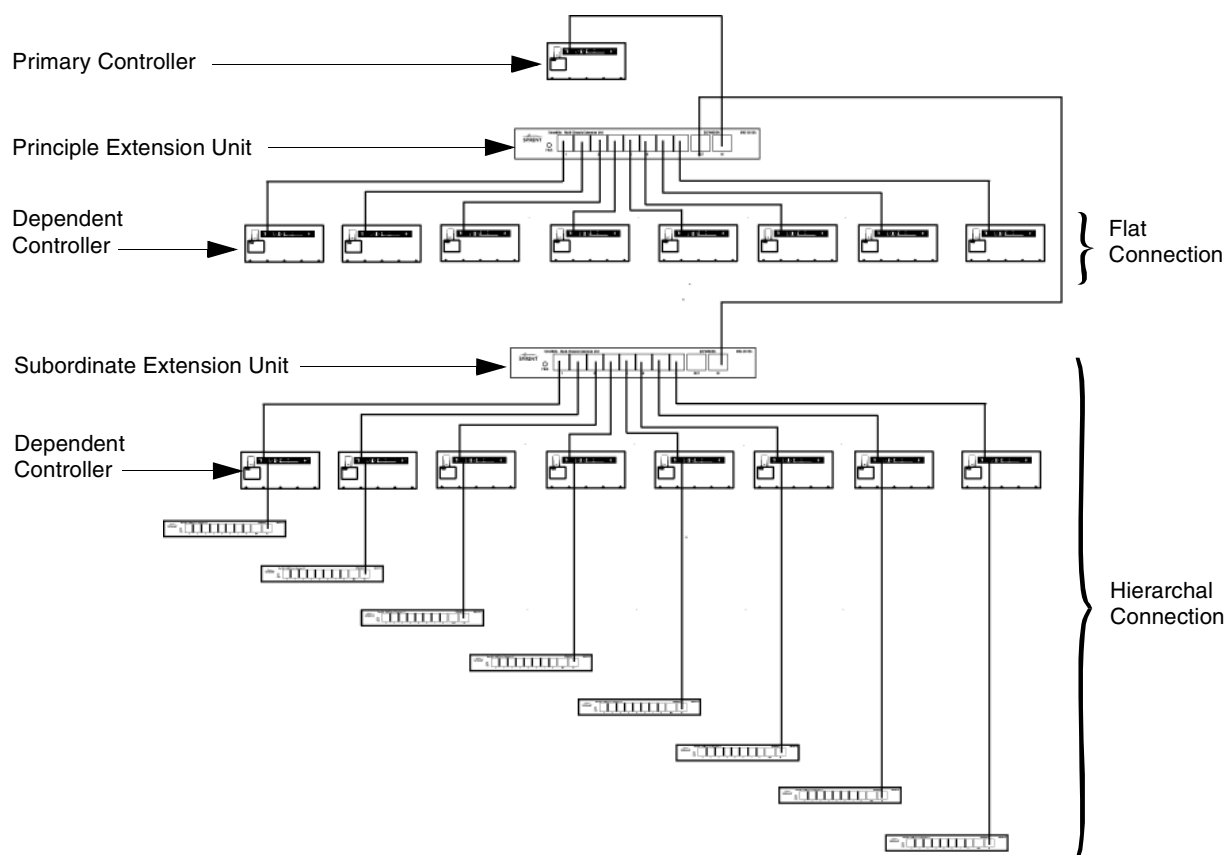

Figure A-8. Multi-chassis Extension Unit Terminology
The terminology used with Multi-chassis Extension Unit connections is defined as follows and is shown in *Figure A-8* below:
**Note:** Refer to Figure A-8 on page 77 for terminology explanations.
**Note:** Refer to *Figure A-8 on page 77* for terminology explanations.